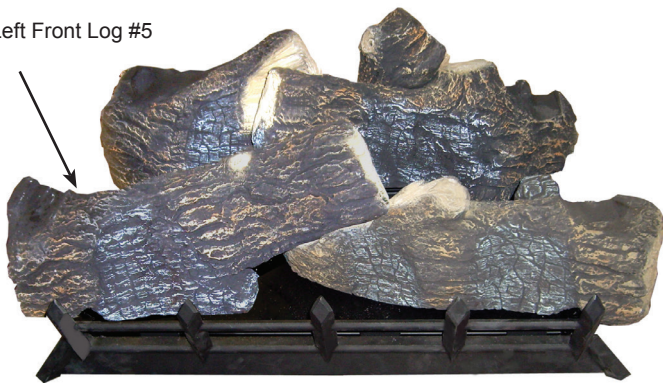

Figure 6.7 - Log #5 Placement
5. Place left front log (#5) on left pin located on burner and left grate bar. Rest top right portion of log on right front log. See Figure 6.7.